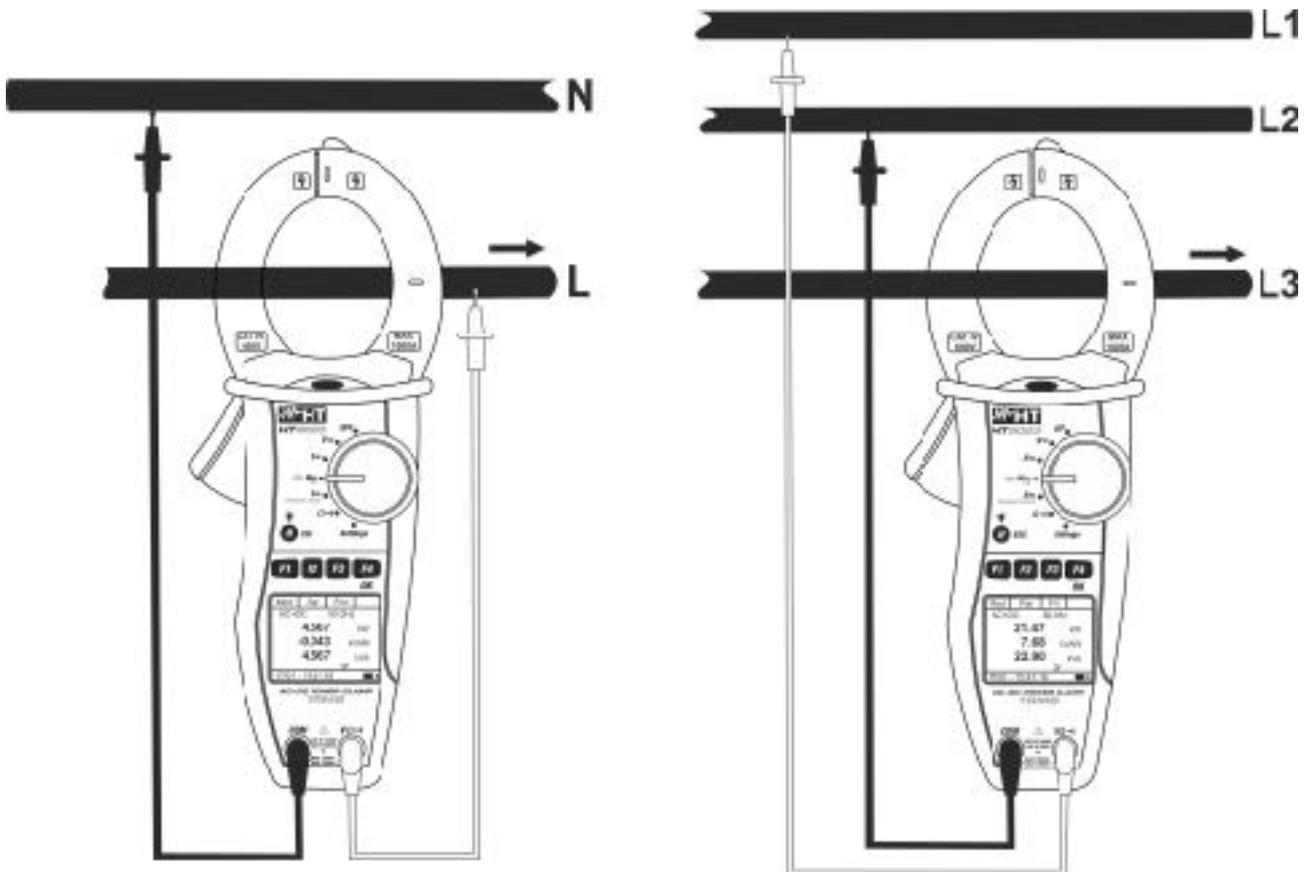

Fig. 13: AC/AC+DC power measure on Single phase and balanced Three phase systems
- We recommend holding the clamp respecting the safety area created by the instrument (see Fig. 13)
- Connect red cable to input lead **VΩ⁾⁾⁾** and black cable to input lead **COM** then perform the connection as indicated in Fig. 13 depending on the type of system under test. Put the phase cable into the clamp jaws respecting the direction of current indicated by the arrow (see Fig. 13). Connect the cable to the middle of the clamp jaws, in order to get accurate measurements. Use the marks as a reference (see Fig. 2)